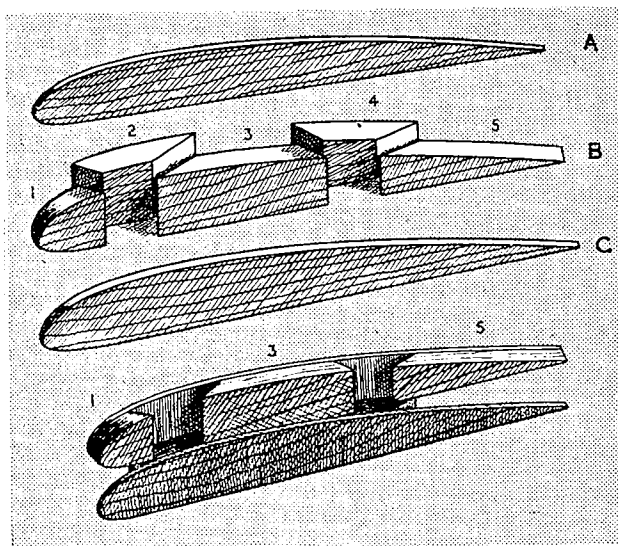
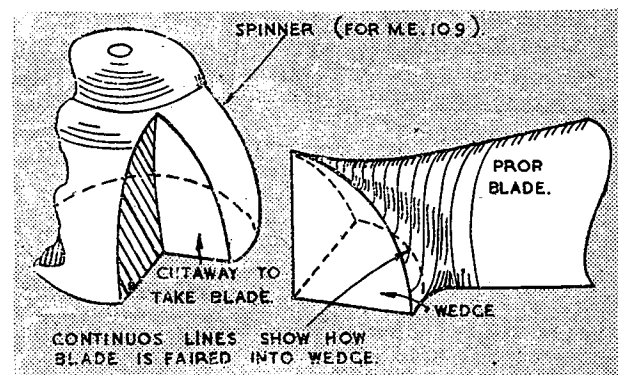

FIGURE 4.
FIGURE 5.
A length of 16 s.w.g. piano wire, or a long needle (A) is firmly attached to the aileron as in fig. 4. It is held between two guides (B) allowing it only a vertical movement. A piece of thin piano wire (C) is brought along the wing from its root, preferably at its thickest point, which carries the movement of the release hook, pendulum, servo motor, or whatever is being used. To the end of the wire is attached a small piece of tin or aluminium (D) (see fig. 5). The piece of tin is free to move between two slides (E). The attachment of the wire (C) to (D) is made as follows:—
C. A. RIPPON, the well-known modeller, will need no introduction to the majority of readers. He is one of the pioneers of the hobby who has been responsible for dozens of inventions and devices for improving the flying model aircraft. This scheme he calls the "Rip" Dovetail Wing Fixing. Mr. Rippon gives the following instructions which should be studied in connection with Fig. 4.